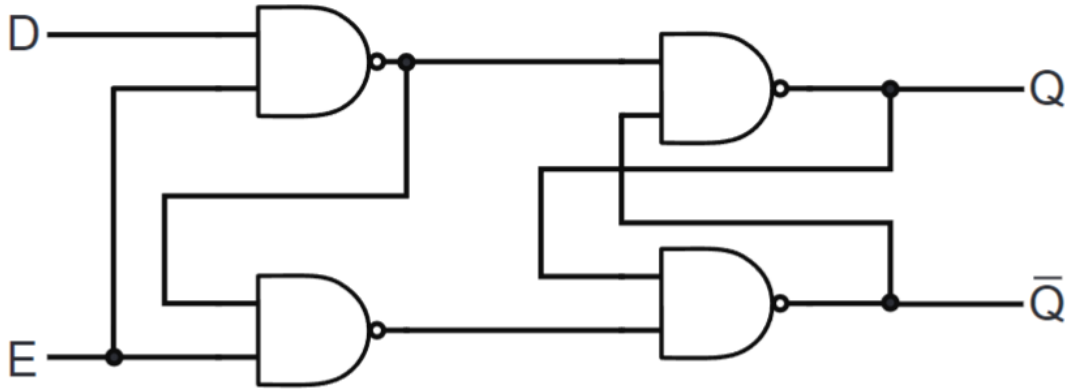
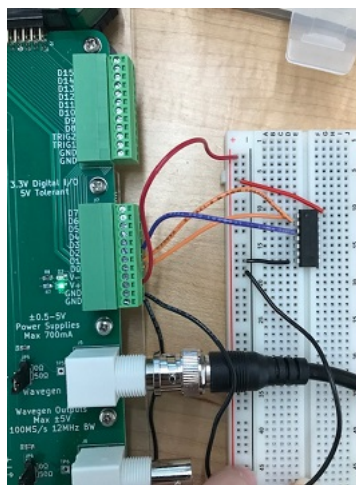
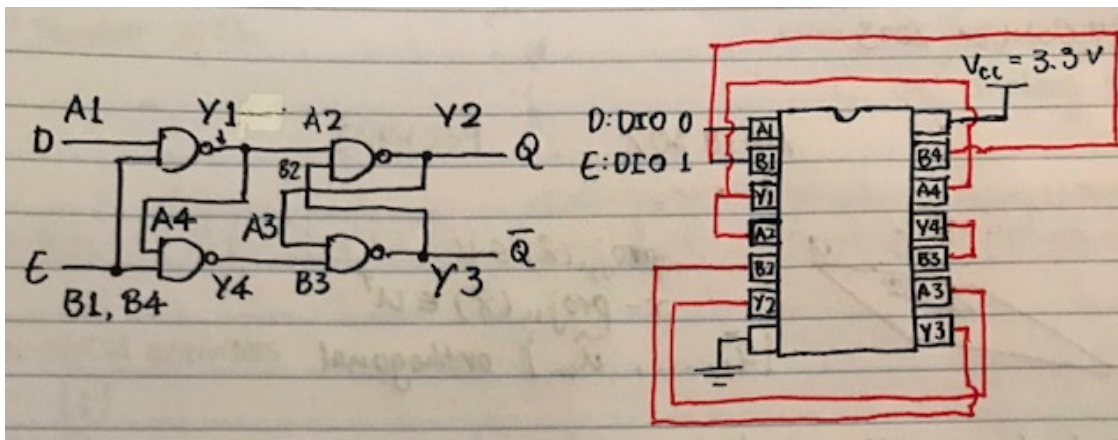

Figure 1a: A D-latch using NAND gates
Figure 9: Breadboard setup of NAND gate
Figure 10: Translating d-latch in Figure 1a to four NAND gates on 74HC00 chip
Problem Description: Given the D-latch in Figure 1a, construct a truth table.
- I set up the Digital I/O terminals for the two inputs and one for the output of the NAND gate. This setup is visible in Figure 9, and an explanation in Figure 10.
- Using the diagram in Figure 1a, I setup the diagram on the left of Figure 10 to help direct myself on which inputs to wire to which outputs and vice versa. It was quite confusing.
Note: From now on, I will refer to D in Figure 1a as Data and E as Enable. Q is still Q, but Q' represents Q complement. Also, the states HI/1/on are the same, and so are LO/0/off.